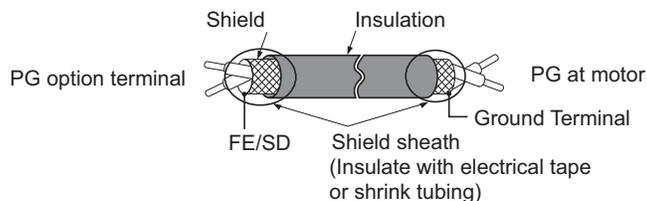

Figure 52 Preparing Ends of Shielded Cable
4. Prepare and connect the wire ends as shown in Figure 52 and Figure 53. Refer to Table 90 on page 209 to confirm that the proper tightening torque is applied to each terminal. Take particular precaution to ensure that each wire is properly connected and wire insulation is not accidentally pinched into electrical terminals.
Wire the motor PG encoder to the terminal block on the option using a HEIDENHAIN 17-conductor cable. Refer to Figure 52 and Figure 53 for wiring instructions. Refer to Figure 54 for the connection diagram.
Wire the motor PG encoder to the terminal block on the option using a HEIDENHAIN 8-conductor cable. Refer to Figure 52 and Figure 53 for wiring instructions. Refer to Figure 55 for the connection diagram.
Wire the motor PG encoder to the terminal block on the option using a SICK STEGMANN 8-conductor cable. Refer to Figure 52 and Figure 53 for wiring instructions. Refer to Figure 56 for the connection diagram. Refer to Table 92 on page 210 for a detailed description of the option terminal functions.